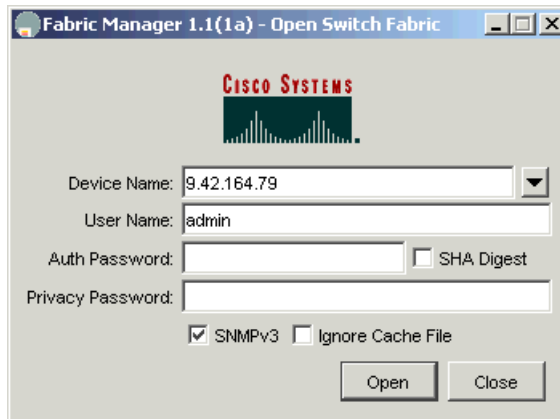

Figure 2-13 Fabric Manager initial login window
3. When the installation is complete, you should see the Fabric Manager login window as shown in Figure 2-13. The Fabric Manager is now ready for use.